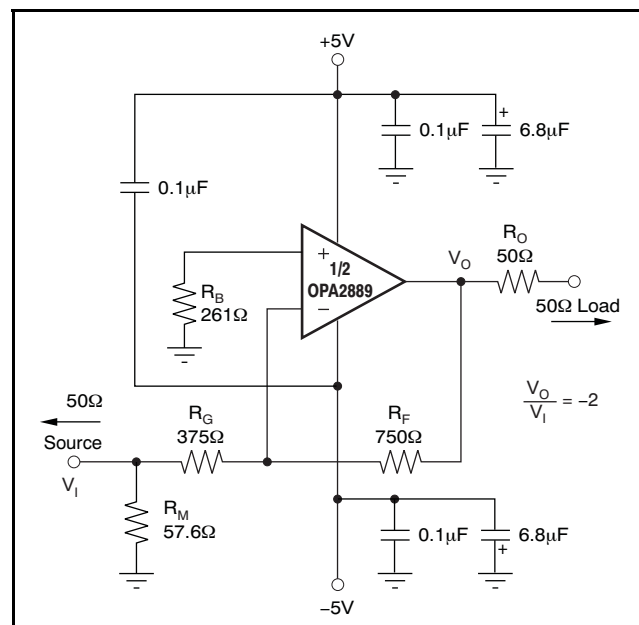

Figure 60. Gain of  $-2V/V$  Example Circuit
The OPA2889 is a general-purpose, wideband, voltage-feedback op amp; therefore, all of the familiar op amp application circuits are available to the designer. Inverting operation is one of the more common requirements and offers several performance benefits. See Figure 60 for a typical inverting configuration where the I/O impedances and signal gain from Figure 50 are retained in an inverting circuit configuration.
considered in Figure 60. The amplifier output, however, now sees the 100Ω feedback resistor in parallel with the external load. In general, the feedback resistor should be limited to the 200Ω to 1.5kΩ range. In this case, it is preferable to increase both the  $R_F$  and  $R_G$  values (see Figure 60), and then achieve the input matching impedance with a third resistor ( $R_M$ ) to ground. The total input impedance becomes the parallel combination of  $R_G$  and  $R_M$ .
The second major consideration, touched on in the previous paragraph, is that the signal source impedance becomes part of the noise gain equation and influences the bandwidth. For the example in Figure 60, the  $R_M$  value combined in parallel with the external 50Ω source impedance yields an effective driving impedance of  $50\Omega \parallel 57.6\Omega = 26.7\Omega$ . This impedance is added in series with  $R_G$  for calculating the noise gain (NG). The resulting NG is 2.86V/V for Figure 60, as opposed to only 2V/V if  $R_M$  could be eliminated as discussed above. Therefore, the bandwidth is slightly lower for the gain of  $-2V/V$  circuit of Figure 60 than for the gain of  $+2V/V$  circuit of Figure 50.
The third important consideration in inverting amplifier design is setting the bias current cancellation resistor on the noninverting input ( $R_B$ ). If this resistor is set equal to the total dc resistance looking out of the inverting node, the output dc error, as a result of the input bias currents, is reduced to  $(\text{Input Offset Current}) \times R_F$ . If the 50Ω source impedance is dc-coupled in Figure 60, the total resistance to ground on the inverting input is 402Ω.
considerations. Because the resistor-induced noise is relatively negligible, additional capacitive decoupling across the bias current cancellation resistor ( $R_B$ ) for the inverting op amp configuration of Figure 60 is not required.